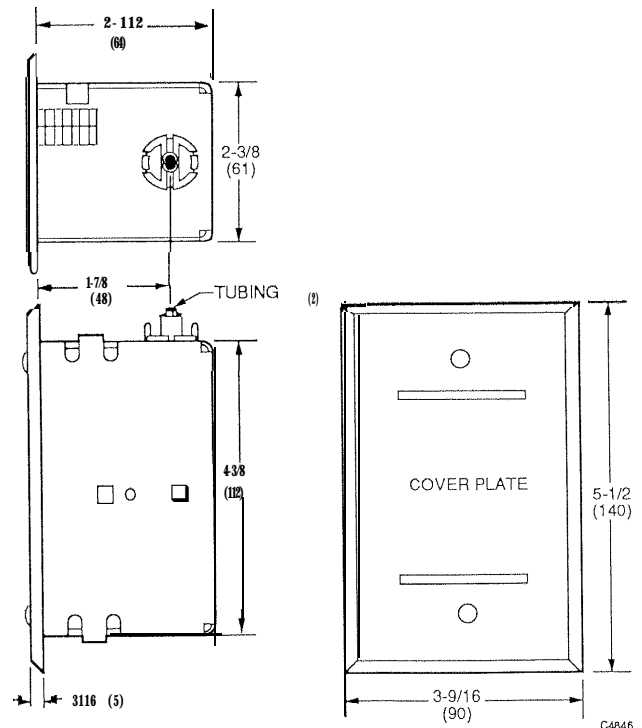

Fig. 1. Dimensions In Inches (Millimeters) of 14002424 Aspirating Wall Box with AK3970 Cover Plate,
- The HP970 and TP970 Series Aspirating Wall Box Assembly (Fig. 1) is available in two versions: